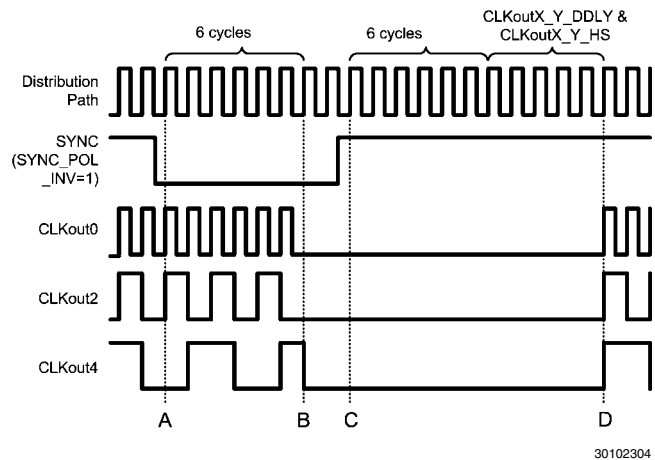
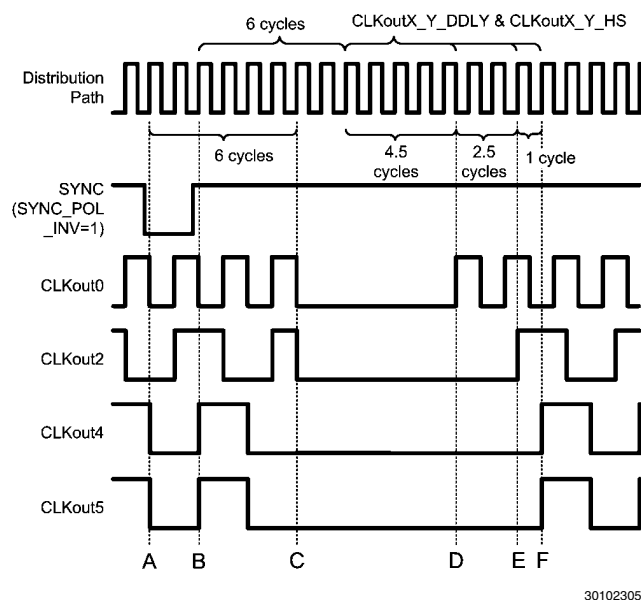

FIGURE 14. Clock Output synchronization using the SYNC pin (Active Low)
FIGURE 15. Clock Output synchronization using the SYNC pin (Active Low)
Figure 15 illustrates clock outputs programmed with different digital delay values during a SYNC event.
Refer to Figure 14 during this discussion on the timing of SYNC. SYNC must be asserted for greater than one clock cycle of the clock distribution path to latch the SYNC event. After SYNC is asserted, the SYNC event is latched on the rising edge of the distribution path clock, at time A. After this event has been latched, the outputs will not reflect the low state for 6 cycles, at time B. Due to the asynchronous nature of SYNC with respect to the output clocks, it is possible that a glitch pulse could be created when the clock output goes low from the SYNC event. This is shown by CLKout4 in Figure 14 and CLKout2 in Figure 15. See Section 16.9.2.1.2 Relative Dynamic Digital Delay for more information on synchronizing relative to an output clock to eliminate or minimize this glitch pulse.
Figure 15 illustrates the timing with different digital delays programmed.
- For example see CLKout4 in Figure 14 and CLKout2 in Figure 15.
Step 1: The device is programmed from register R0 to R30 with values that result in the device being locked and operating as desired, see the system requirements above. The phase of all the output clocks are aligned because all the digital delay and half step values were the same when the SYNC was generated by programming register R30. The timing of this is as shown in Figure 14.